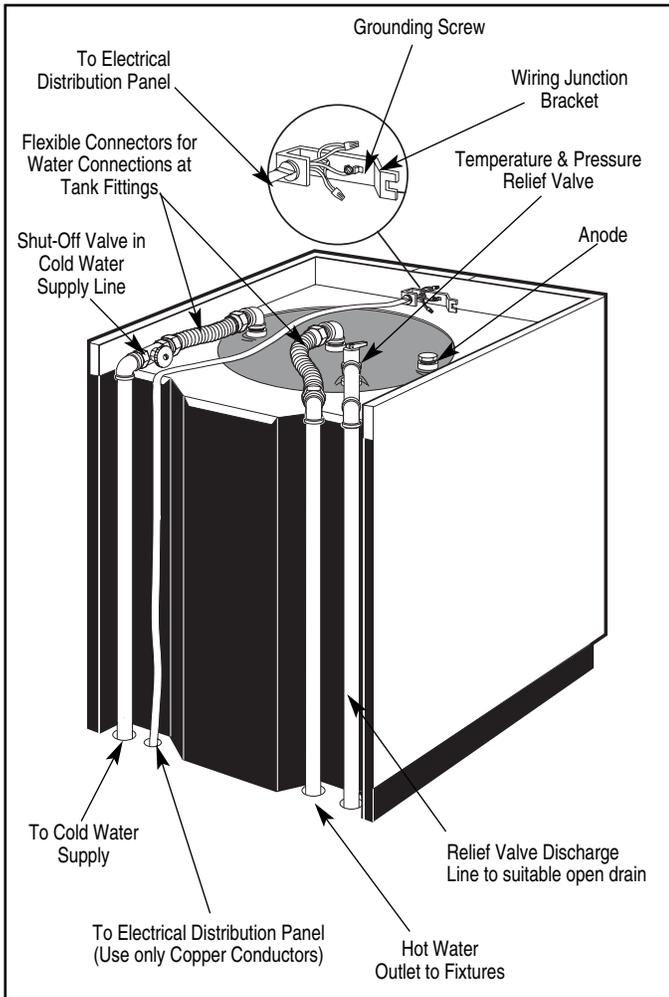

Figure 2. — Typical Installation (Pictured from rear of heater with Top Panel and Insulation Pad removed).
3. WATER SUPPLY CONNECTIONS — Refer to Fig. 2 for suggested typical installation. The installation of unions or flexible copper connectors is recommended on the hot and cold water connections so that the water heater may be easily disconnected for servicing if necessary. The **HOT** and **COLD** water connections are clearly marked and are 3/4" NPT on all models. Install a shut-off valve in the cold water line near the water heater.
4. RELIEF VALVE — A new combination temperature and pressure relief valve, complying with the Standard for Relief Valves and Automatic Gas Shutoff Devices for Hot Water Supply Systems, ANSI Z21.22, must be installed in the opening provided and marked for the purpose on the water heater. (Refer to Fig. 2.) No valve of any type should be installed between the relief valve and the tank. Local codes shall govern the installation of relief valves.